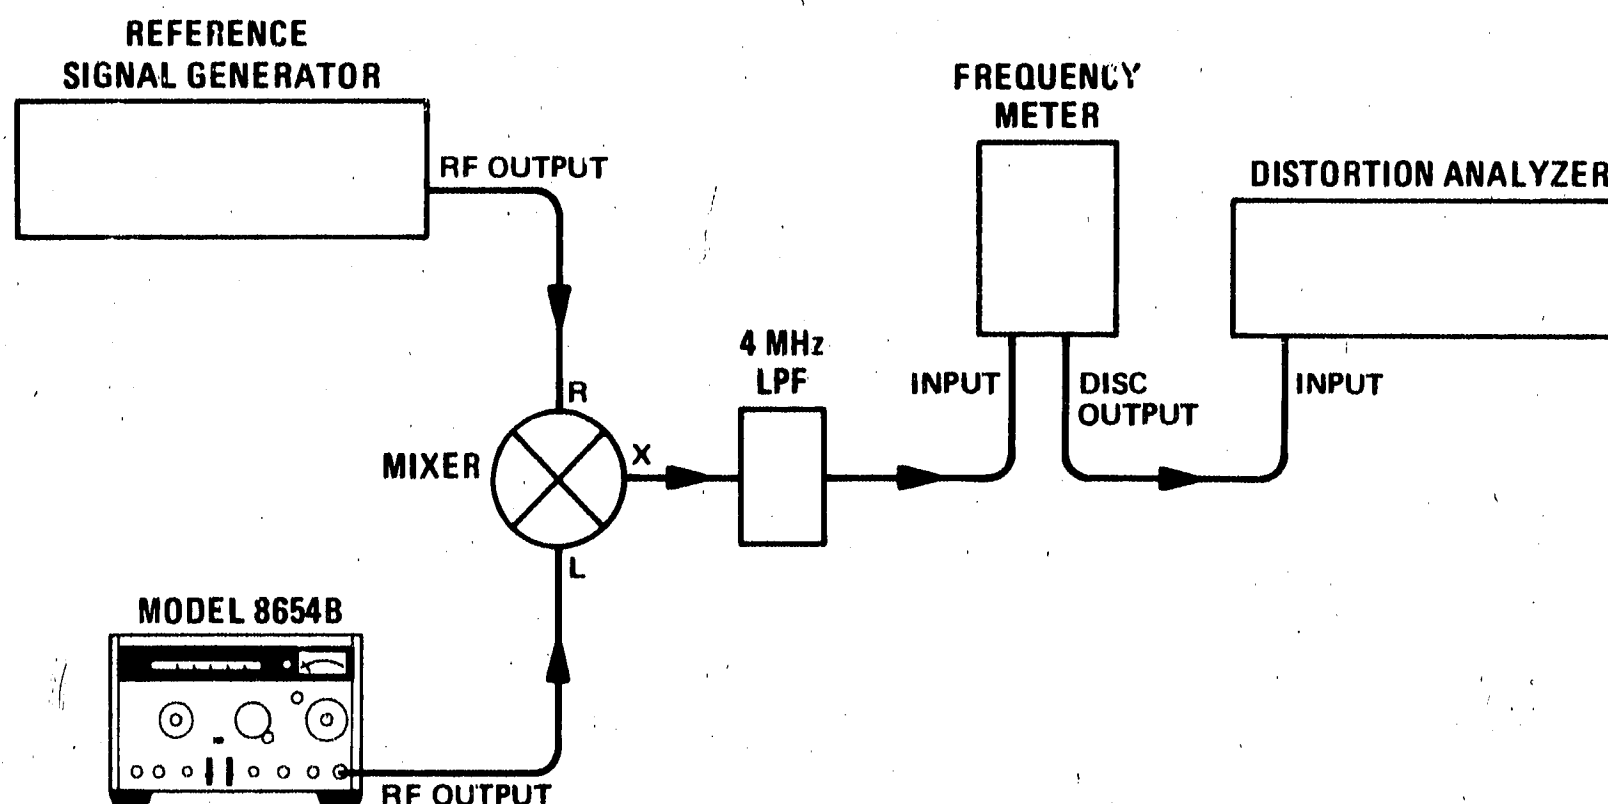

Figure 4-9. FM Distortion Test Setup
2. Connect equipment as shown in Figure 4-9 after setting test Signal Generator controls as follows: